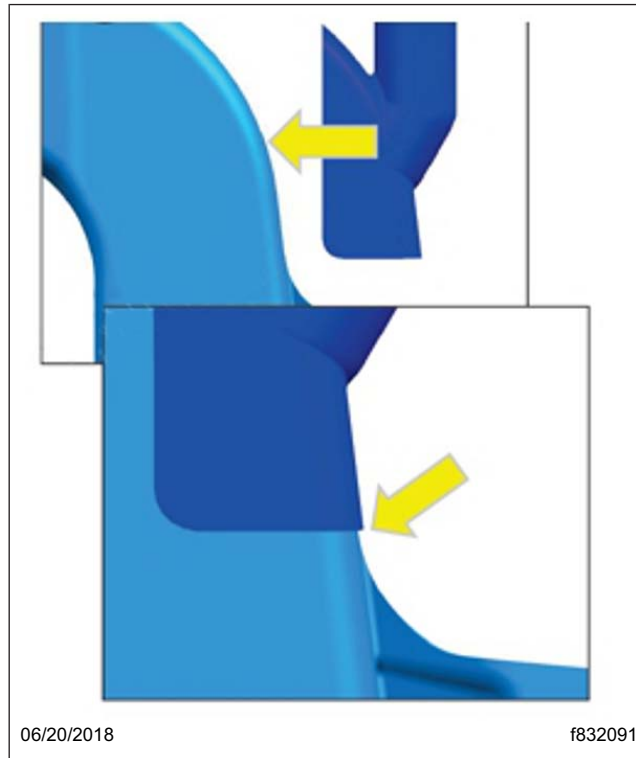

Fig. 3, Aligning the Adapter to the Beginning of the Mounting Tab
3. With the ducting removed, slide on the adapter (22-76285-000) and align the bottom edge to the beginning of the mounting tab. See Fig. 3.